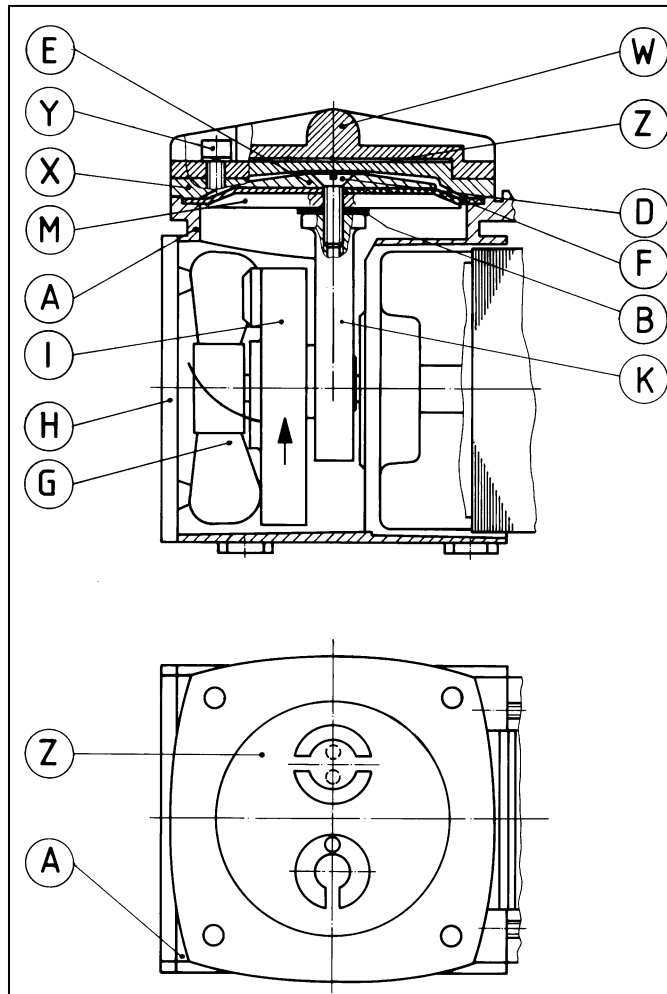

Fig. 3: Cross section N 023_ANE
Change the diaphragm and valve plate in the following sequence (see fig. 3):
10. Place the new valve plate **(Z)** on the intermediate plate **(X)** as shown in figure 3. Fit the head **(W)**, according to the markings.
*according fig. 3